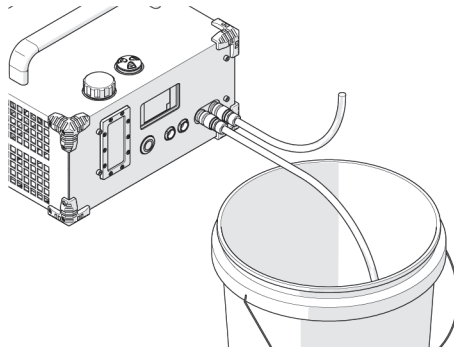

Figure 5-2 Draining the coolant
3. Connect the other open-ended hose to the IN port to allow the system to vent (see Figure 5-2 on page 191).